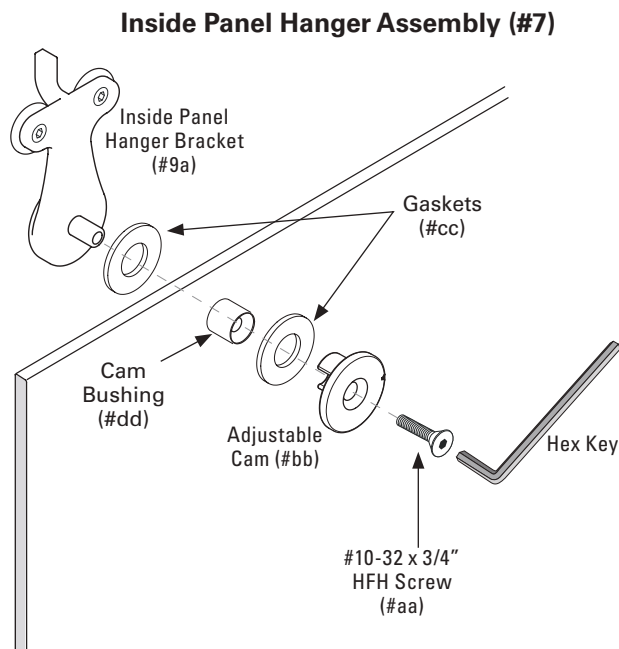

Figure 9
3. Place another Gasket on the Inside Panel Hanger Bracket and attach the Inside Panel Hanger Bracket with Wheels to the Adjustable Cam (See **Figure 9**). Insert a #10-32 x 3/4" HFH screw through the Cam and tighten with the Hex Key. Do not over tighten.